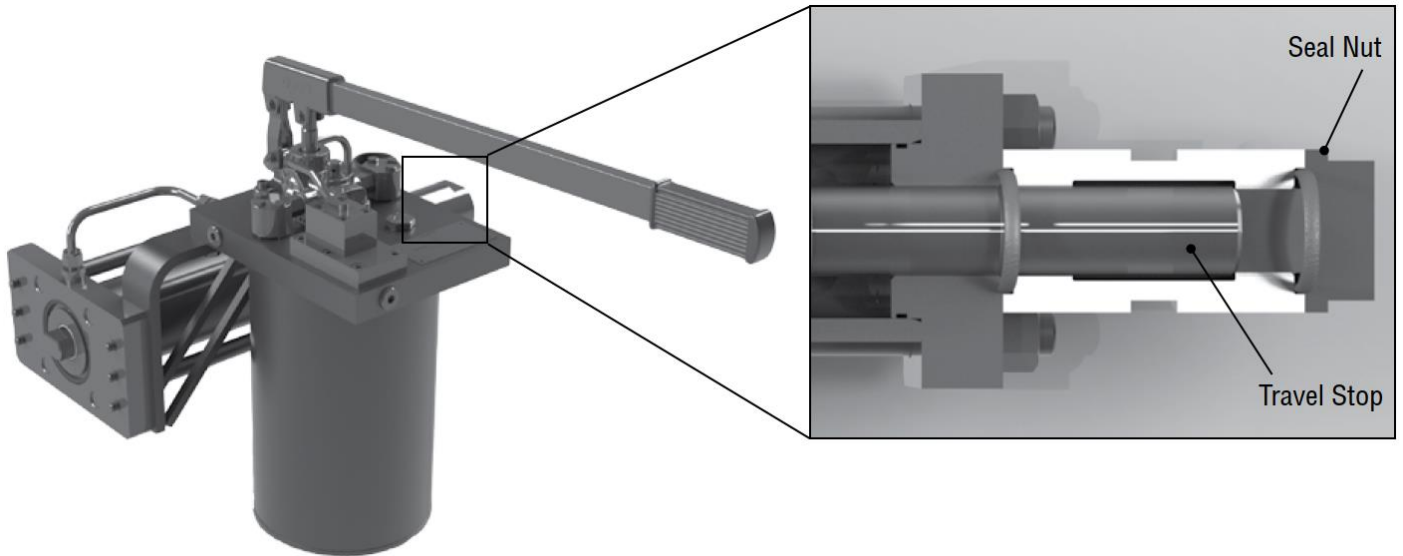

Figure 10 – Hydraulic Hand Pump Manual Override
##### 3.1.1.1 Loosen the seal nut with a proper wrench (Figure 10).
3.1.1.2 While keeping the seal nut stationary, screw or un-screw the travel-stop (Figure 10) bolt using a proper Allen key.